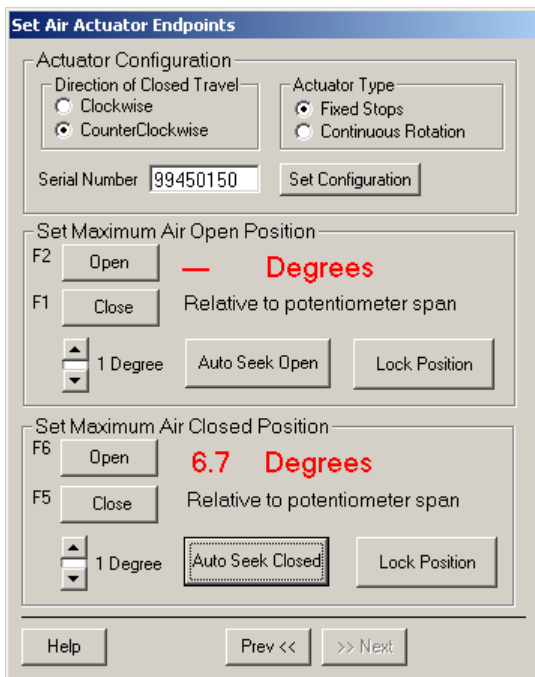

Fig. 8. Auto seek closed to find actuator mechanical closed fixed stop.
2. Auto seek closed to find the actuator mechanical closed fixed stop. See Fig. 8.